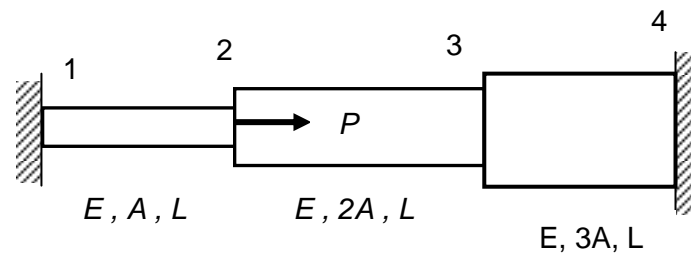

Figure 9a
4. (a) Write down the element stiffness matrices and global matrix for the three bars assembly (as shown in Figure 9a) which is loaded with force P , and constrained at the two ends in terms of E , A and L